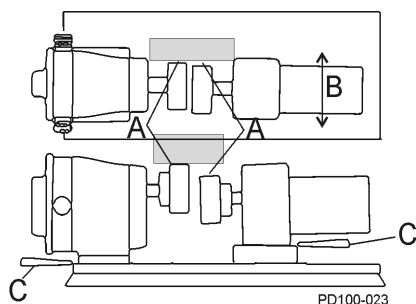

Figure 23 - Check Parallel Alignment
2. Using a feeler gauge at location "A" in Figure 23, determine the direction and amount of movement needed (Figure 23, item B).